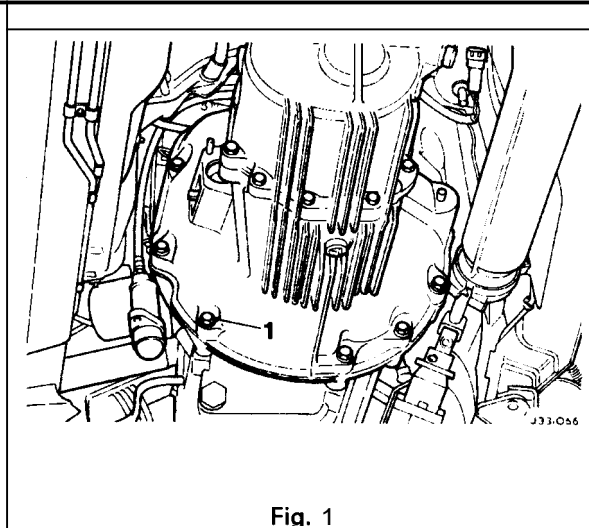

Fig. 1
- Remove the front securing bolts (1 Fig. 1) and remove the front cover.